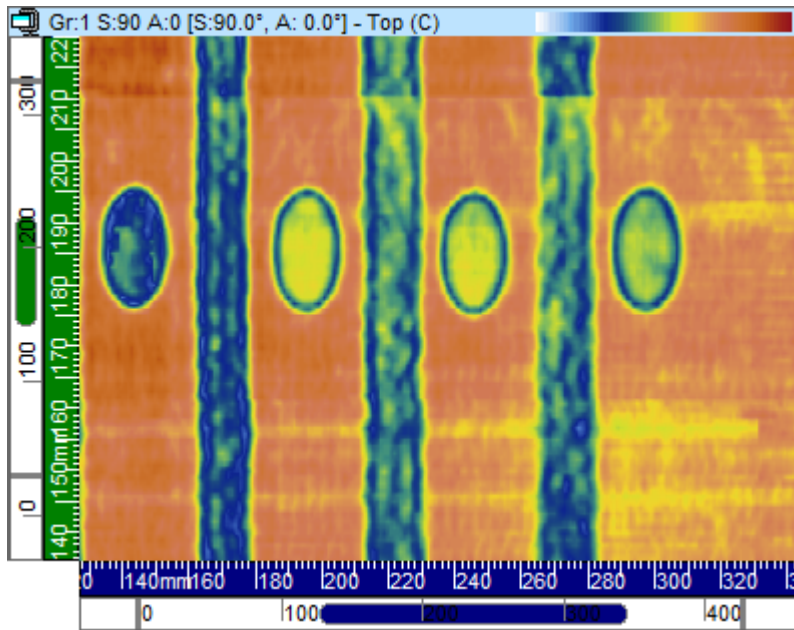

Figure 3-24 Example of Top (C) view
The **Top (C)** view (see Figure 3-24 on page 105) is a two-dimensional graphical representation of the recorded data displayed as a top view of the test specimen. One of the axes is the scan axis; the other is the index axis. The position of the displayed data is related to the encoder positions at the moment of acquisition. At a given position on the projected image, the color corresponds to the maximum amplitude at this position as detected in the considered true-depth range.